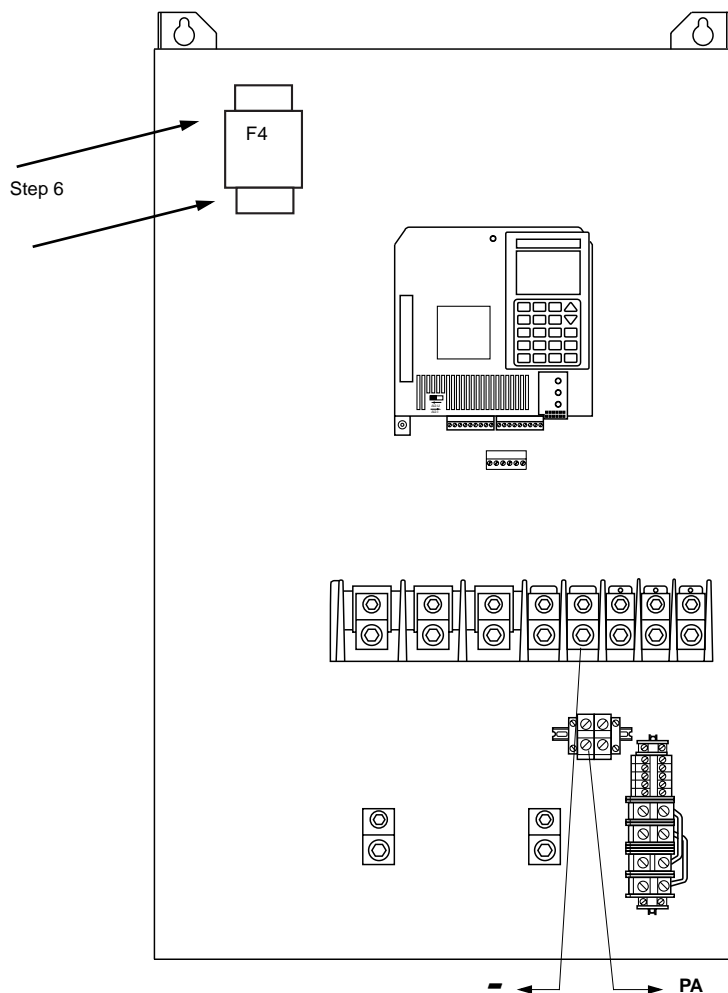

Figure 3.35: F4 Bus Fuse Test Procedure: ATV66C10N4 to C19N4 (Design A)
4. Set a voltmeter to the 1000 VDC scale. Measure the bus capacitor voltage between the PA and (-) terminals to verify that the DC voltage is less than 10 V. **Do not short across capacitor terminals with voltage present.** See Figure 3.35.